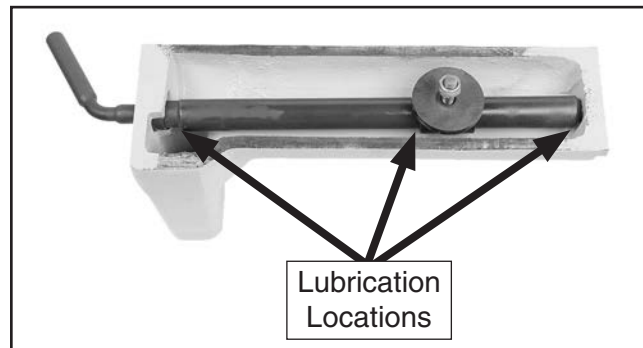

Figure 53. Locations to lubricate bottom of tool rest holder.
3. Place a couple drops of machine oil at each pivot point at the shaft ends and under the locking plate. Turn the tool rest lock lever and move the locking plate to distribute the oil (see **Figure 53**).